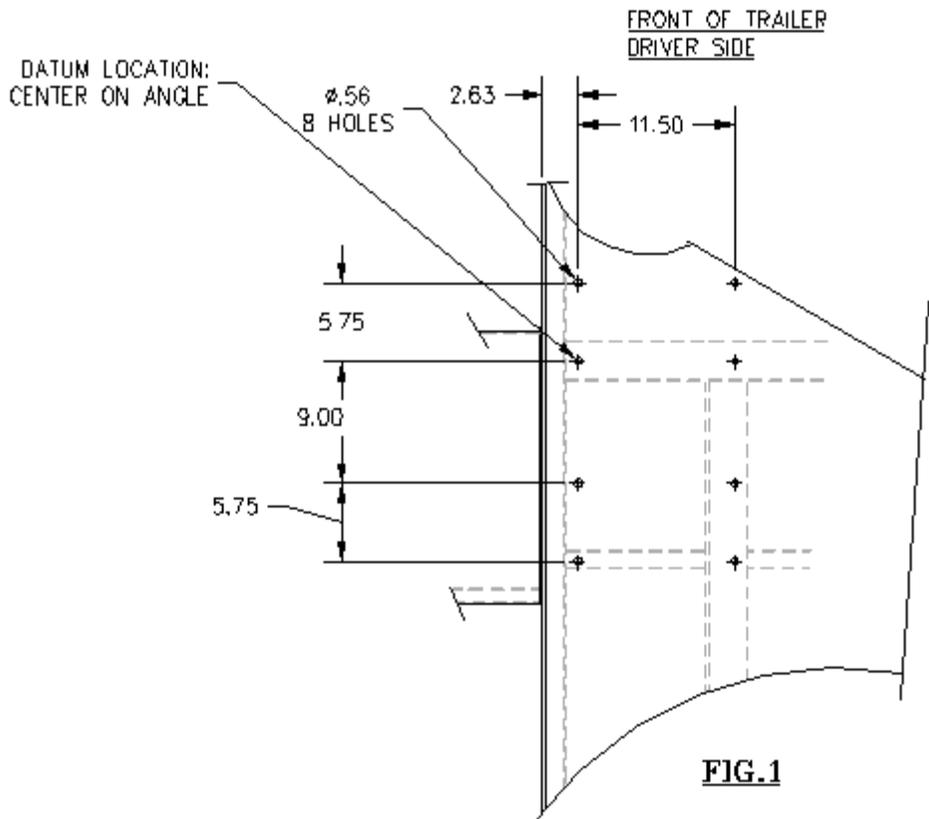

FIG.1
- * Drill (8) 9/16" holes on the frame at the driver side end of the catwalk. Refer to Fig.1 for dimensions. Verify that at least (5) holes are located at the structural members of the frame